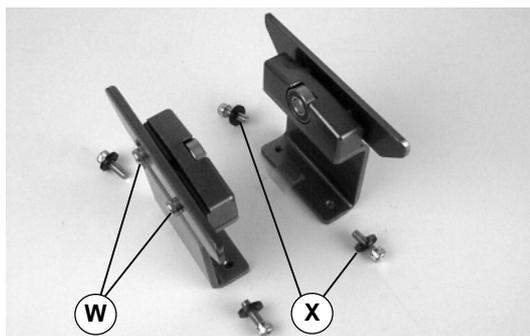

Figure 9
2. Loosen screws (W of Figure 9) and remove screws and washers (X).